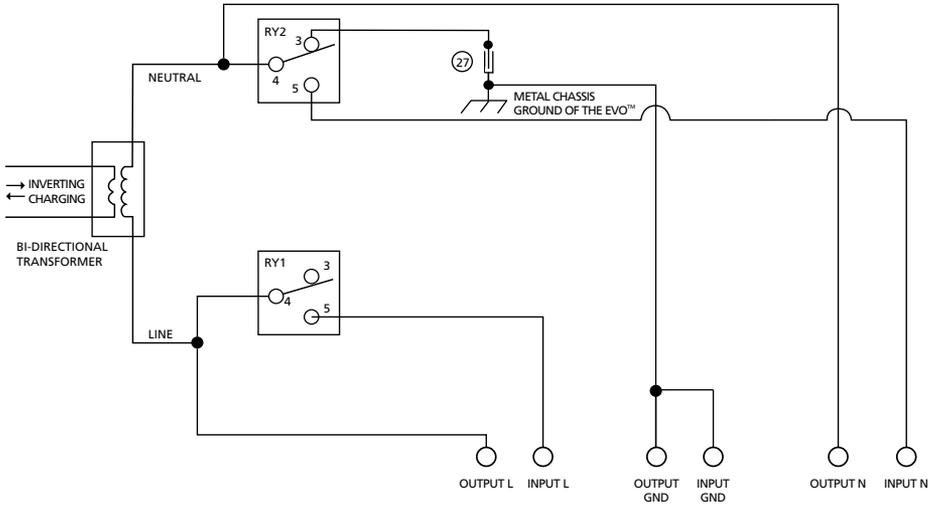

Fig 4.1 Operation of Transfer Relay and Neutral to Ground Bond Switching
Transfer Relay Section is used to either feed AC power to the Battery Charger Section and at the same time, pass through the AC power from the external AC input power source to the load (As long as the external AC input power is available and is within the programmed limits of voltage and frequency) or to transfer the load to the Inverter Section (In case of loss of the external AC input power source or if this source is not within the programmed limits of voltage and frequency). Typical transfer time is 16 milliseconds from Grid/Generator to Inverter and <1ms from Inverter to Grid / Generator. Heavy duty 30A. Transfer Relay (RY1, Fig 4.1) is used for reliable transfer of up to 300% surge power. A separate Relay (RY2, Fig 4.1) is used for Neutral to Ground Bond Switching.
As required by NEC and UL Standard 458, automatic switching of bonding between the Output Neutral and Chassis Ground has been provided in EVO™ through “Output Neutral to Chassis Ground Bond Switching Relay” (RY2 in Figs 4.1). Switching of bonding is carried out as follows:
- When operating as an inverter, the current carrying conductor of the Inverter Section that is connected to the Output Neutral terminal of EVO™ is bonded to the metal chassis of EVO™ by the “Output Neutral to Chassis Ground Bond Switching Relay” (RY2 in Figs 4.1). As the metal chassis of EVO™ is in turn bonded to the Earth Ground (in shore installations) or to the RV Ground (chassis of the RV) or to the Boat Ground (DC Negative Grounding Bus Bar and the Main AC Grounding Bus Bar are tied together in a boat and this is called the “Boat Ground”), this current
- When in Charging Mode, the Neutral conductor of the Grid power/Generator will be connected to the Output Neutral terminal of EVO™. At the same time, the “Output Neutral to Chassis Ground Bond Switching Relay” (RY2 in Figs 4.1) will unbind (disconnect) the Output Neutral connector of EVO™ from the metal chassis of EVO™. This will ensure that the Grounded Conductor (GC) i.e. the Neutral of the Grid power/Generator is bonded to the Earth Ground at one single point at the location of the AC Power Distribution System of the Marina/RV Park/Shore Power.
- **Disabling Neutral to Ground Bond:** In some applications, the Output Neutral of EVO™ may be required to remain isolated from the chassis/Ground at all times. For this, automatic Output Neutral to Ground bond can be disabled by disconnecting the Insulated Male/Female Quick Disconnect located in the AC wiring compartment of EVO-1212F-HW / 1224F-HW. [Please see (i) 27, Fig 3.9.2(a) and (ii) 27, Fig 4.1]. In EVO-1212F / 1224F, this Insulated Male / Female Quick Disconnect is accessible after opening the top cover of the unit.
4.4.2 Operation of Transfer Relay and Output Neutral to Chassis Ground Bond Switching Relay Refer to Schematic at Fig 4.1.
- 30A rated SPDT Relay RY1 (Fig 4.1) is used to switch the Hot Output Connector (**OUTPUT L**) to either the Inverter Section or to Grid / Generator.
- When Grid / Generator input Power is available, Relay RY1 (Fig 4.1) will be energized and contact 4 switches over to contact 5. The Bidirectional Transformer works as a battery Charger. The Hot AC input from Grid / Generator (INPUT L) is fed to the Hot input of the Bi-directional Transformer for battery charging and at the same time, it is passed through to the Hot Out (OUTPUT L) for powering the AC loads.
- When Grid / Generator power fails, Relay RY1 (Fig 4.1) will be de-energized and contact 4 switches back to contact 3. Output from the Inverter Section is fed to the Bi-directional Transformer and onwards to the Hot Out (OUTPUT L) for powering the AC loads.
- 30A rated SPDT Relay RY2 (Fig 4.1) is used to switch the bonding of the Output Neutral Connector (OUTPUT N) to the chassis of the unit
- When Grid / Generator input power is available, Relay RY2 (Fig 4.1) will be energized and contact 4 switches over to contact 5. Neutral input from Grid (GRID N) is fed to the Neutral input of the Bi-directional Transformer for battery charging and at the same time, it is passed through to the Output Neutral (OUTPUT N) for powering the AC loads. Please note that in this condition, the Output Neutral (OUTPUT N) is isolated from the chassis of the unit
- When Grid / Generator input power fails, Relay RY2 (Fig 4.1) will be de-energized and contact 4 switches back to contact 3. Neutral output from the Inverter Section is fed the Neutral of the Bi-directional Transformer and onwards to the output Neutral (OUTPUT N) for powering the AC loads. At the same time, the output Neutral (OUTPUT N) gets bonded to the metal chassis of the unit through the mated contacts of the Insulated Male / Female Quick Disconnect (27, Fig 4.1) located in the AC Wiring Compartment [27, Fig 3.9.2(a)] in EVO-1212F-HW / 1224F-HW. In EVO-1212F / 1224F, the Insulated Male / Female Quick Disconnect is accessible after opening the top cover of the unit.
LEGEND for Fig 4.1